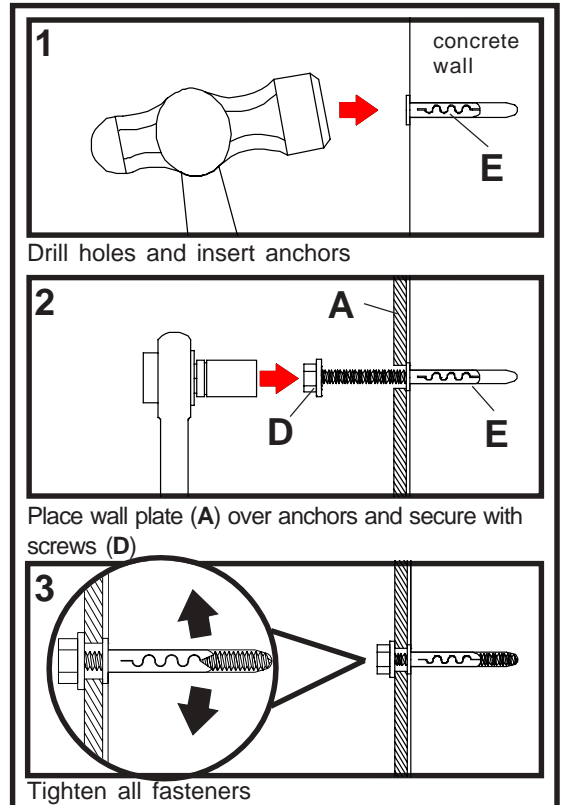

fig 1.4
2 Position wall mount assembly (A) at desired position on wall. Use wall mount assembly, making sure that it is level, as a template to mark holes. Drill four 1/4" (6 mm) dia. holes to a minimum depth of 2-1/2" (64 mm). Concrete must be 2000 psi density minimum. Insert anchors (E) in holes flush with wall as shown in figure 1.4. Place wall mount assembly over anchors and secure with #14 x 2-1/2" (6 mm x 65 mm) wood screws (D) as shown in figure 1.5. Make sure wall plate is level and tighten all fasteners.